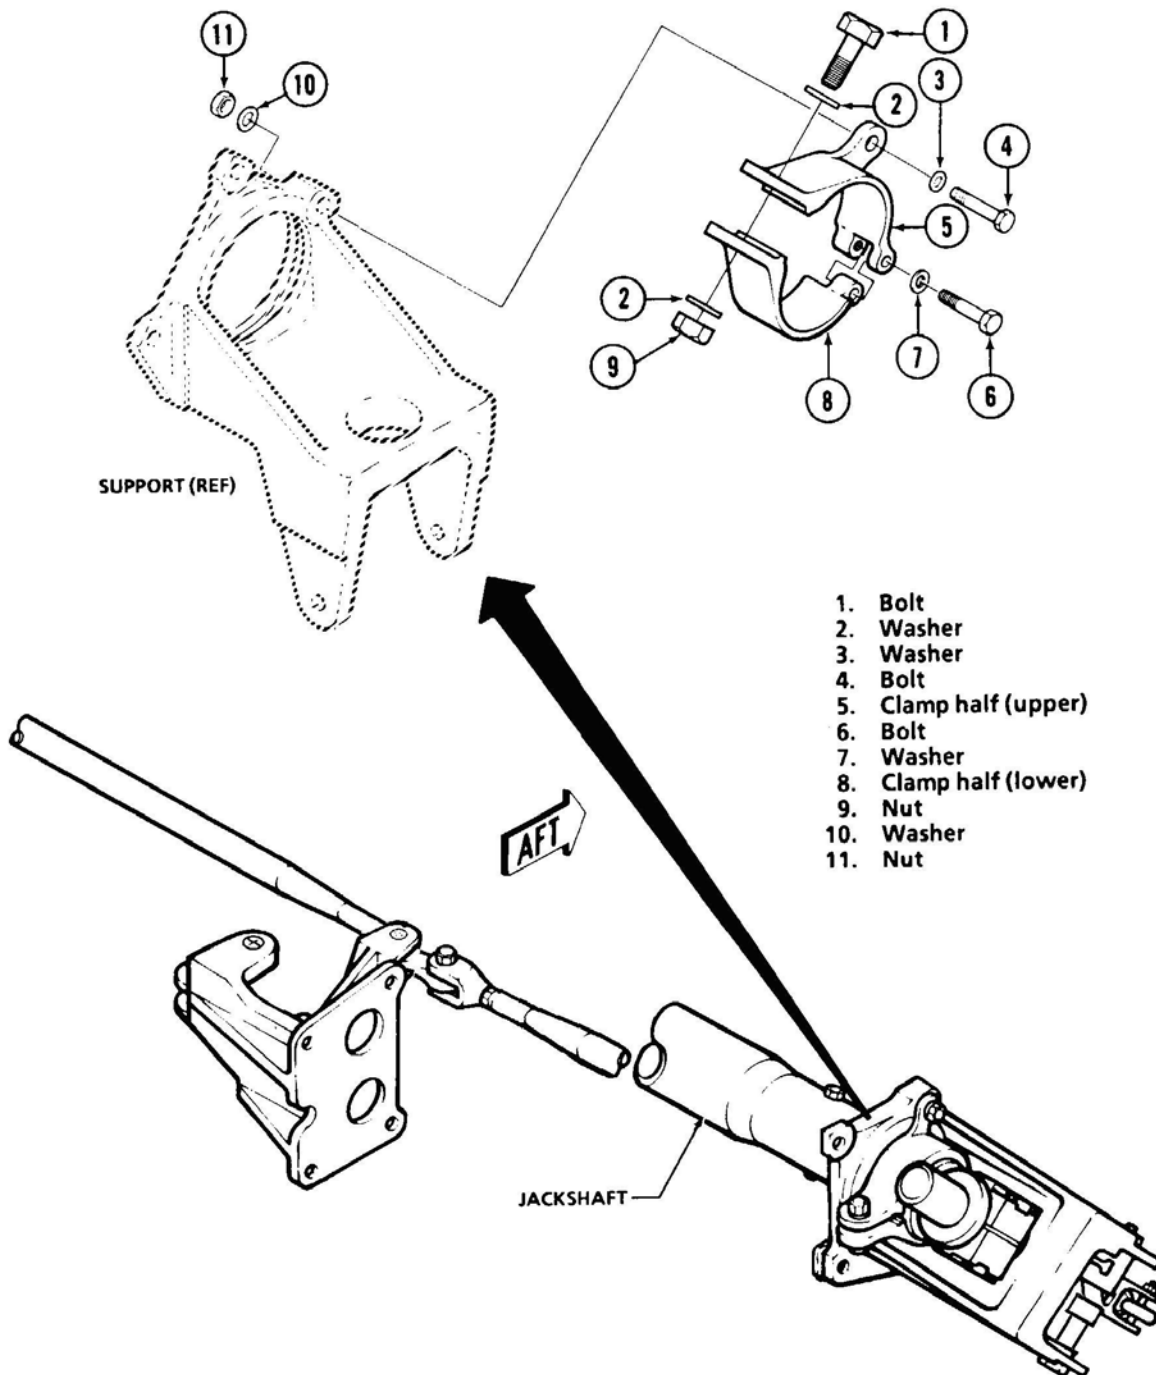

Figure 67-11. Friction Clamp Assembly
67.2.3.3.1 Remove all old liner material and adhesive from clamp halves (5 and 8, Figure 67-11) using 180 grit abrasive cloth or paper (C-423)
67.2.3.4.1 Place clamp halves around elbow (Figure 67-11).